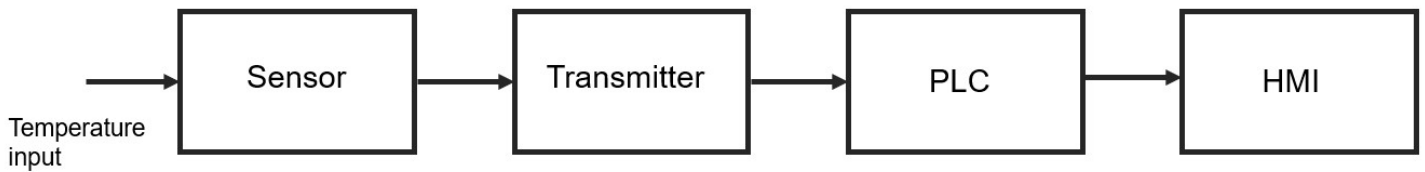

Figure 1 - Block diagram
A block diagram, schematic diagram and specification detailing the temperature control system layout and expected operation are shown in Figures 1 and 2 below.
- access to relevant information sources (digital or hard copy), including Figures 1 and 2, wiring diagrams, component datasheets, manufacturer's specification, manufacturer's recommended procedures, operation and maintenance manuals, technical manuals and circuit diagrams/schematics